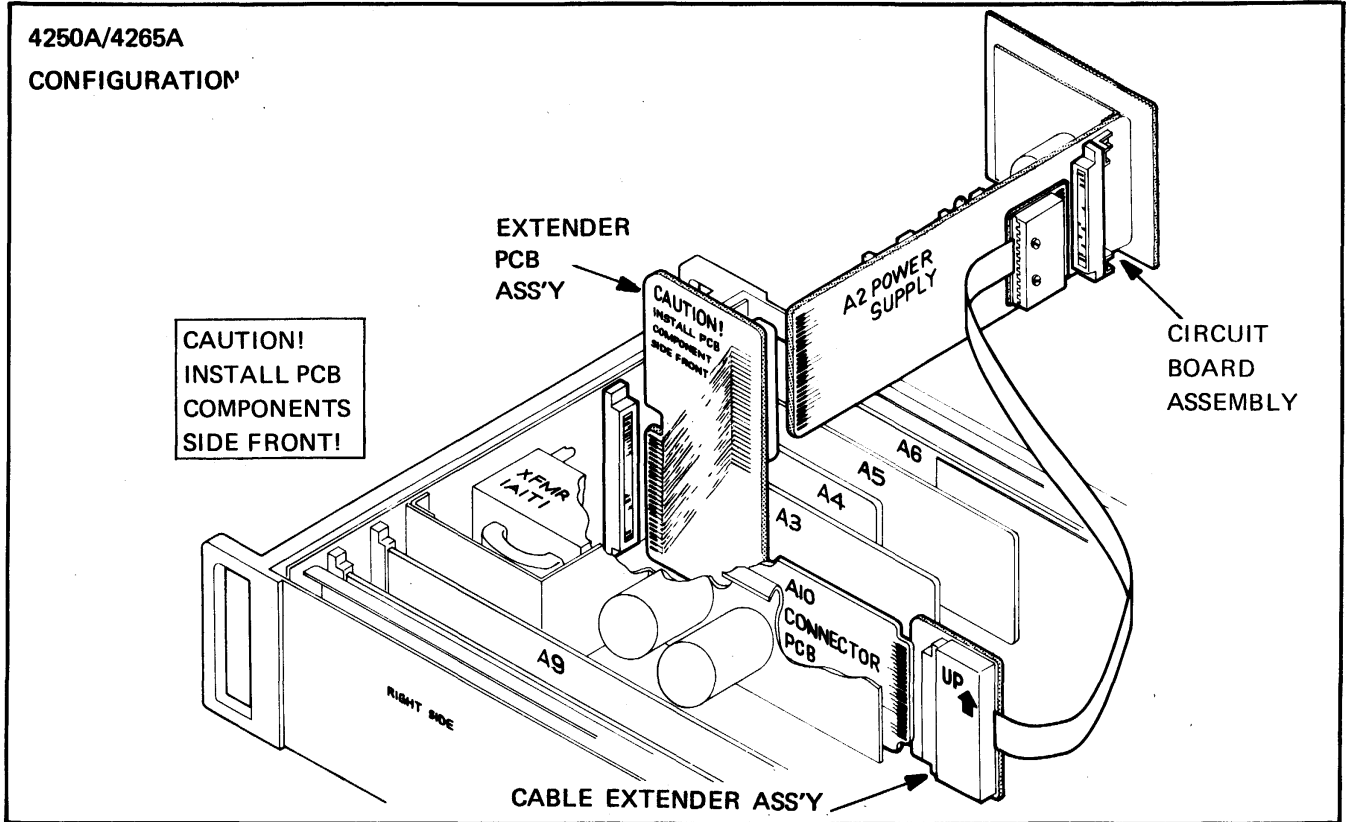

Figure 6-4. EXTENDER PCB AND CABLE EXTENDER ASSEMBLIES INSTALLED IN 4250A/4265A INSTRUMENTS
- b. Usage of the cable extender assembly is shown in Figures 6-4 and 6-5 for the instruments requiring